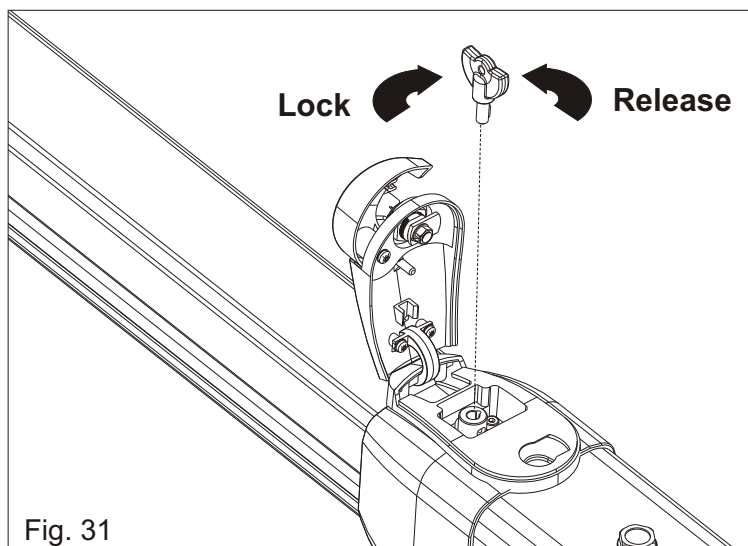

Fig. 31
- 1) Release the operator (as in Fig. 31)
- Release the unit (as in Fig. 31)
-Insert the key and turn it about 180° anti-clockwise (Fig.31).
-Insert the key and turn it clockwise until it stops (Fig.31).